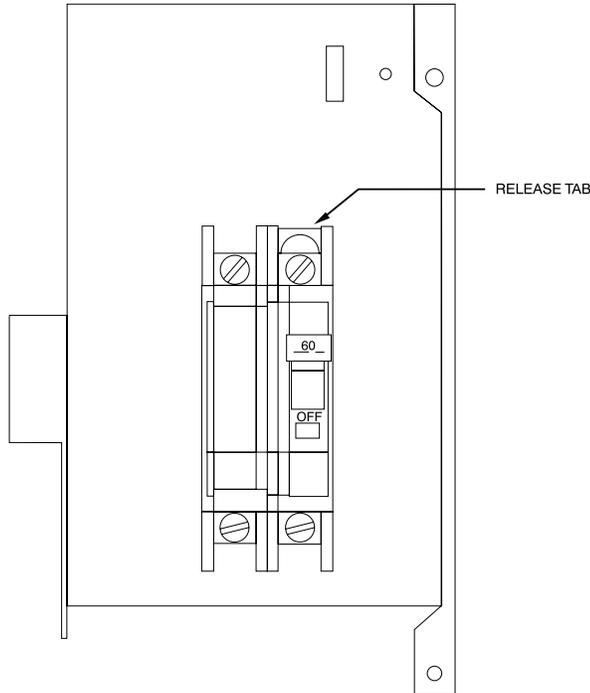

Fig. 17 – Conversion of Circuit Breaker
2. Pull the white plastic release tab on the bottom of circuit breaker straight out to release the circuit breaker from the bracket (Fig. 17).